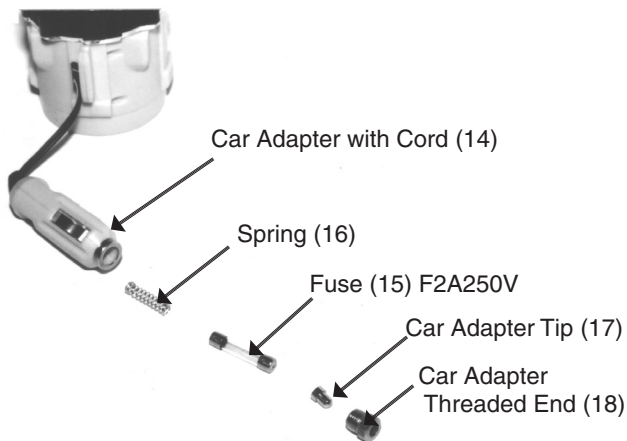

Figure 1
1. Unscrew the Theaded End (18) from the Car Adapter with Cord (14) as shown in Figure 1.
2. Pull out the Fuse (15) from the Car Adapter and Cord (14). The Fuse compartment also includes one Spring (16) and one Car Adapter Tip. These may come out when removing the Fuse (15).
3. The Fuse (15) is a F2A250V amp fuse. Do not replace with a different size fuse, as this may result in excessive heat and explosion, destroying the Spotlight and resulting in injury.
4. Insert the Spring (16), and replace the Fuse (15). Set the Car Adapter Tip (17) over the Fuse and into the Theaded End (18) of the Car Adapter with Cord (14). Screw Threaded End (18) back onto the Car Adapter.